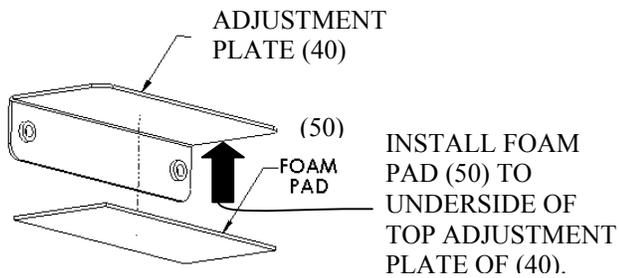

Figure 4. Install Pads on Adjustment Plates
1. Locate two foam pads (50) and two adjustment plates (40). See Figure 4.
2. Remove protective tape from foam pad (50) to expose the bond side.
3. Install foam pad (50) on underside of top adjustment plate (40).
4. Repeat steps 2 and 3 to install the foam pad (50) on the second adjustment plate (40).